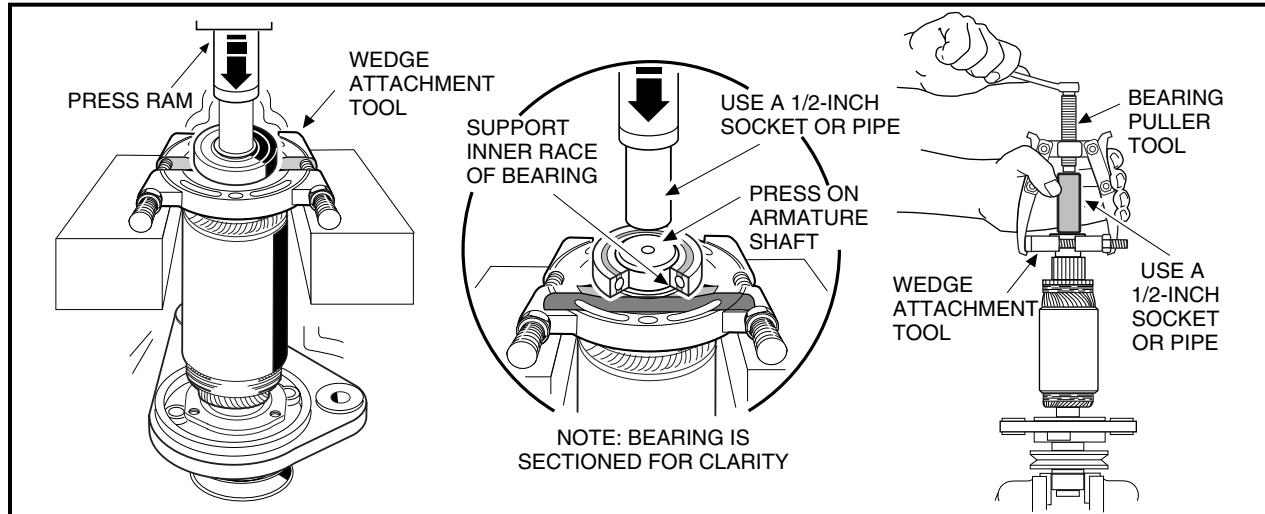

Figure 12-10 Bearing Removal
1. Place the wedge attachment tool (CC 1012812) between the bearing and the armature. Make sure the wedge attachment tool is supporting the inner race of the bearing. If a press is not available, secure a bearing puller (CC 1012811) to the wedge attachment tool and pull the bearing off of the end of the armature shaft. Support the armature so that it will not drop when the bearing is removed (**Figure 12-10, Page 12-6**).